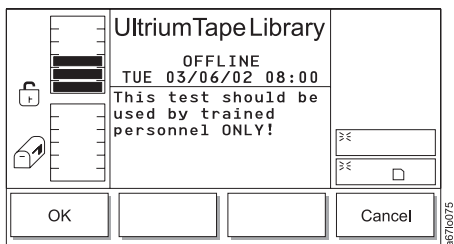

Figure 4-165. Step Dialog
5. Press the button below the **Step** softkey. The Step Dialog displays a reminder that this diagnostic should be used by trained personnel only (see Figure 4-165).